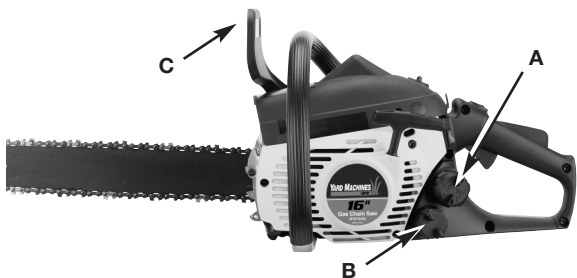

Fig. 3
1. Mix gas with oil. Fill fuel tank (A, Fig. 3) with fuel/oil mixture. See Oil and Fuel Mixing Instructions.
2. Fill the oil tank (B) with correct chain and bar oil (Fig. 3).
3. Be certain the Chain Brake[®] is disengaged (C) before starting unit (Fig. 3).